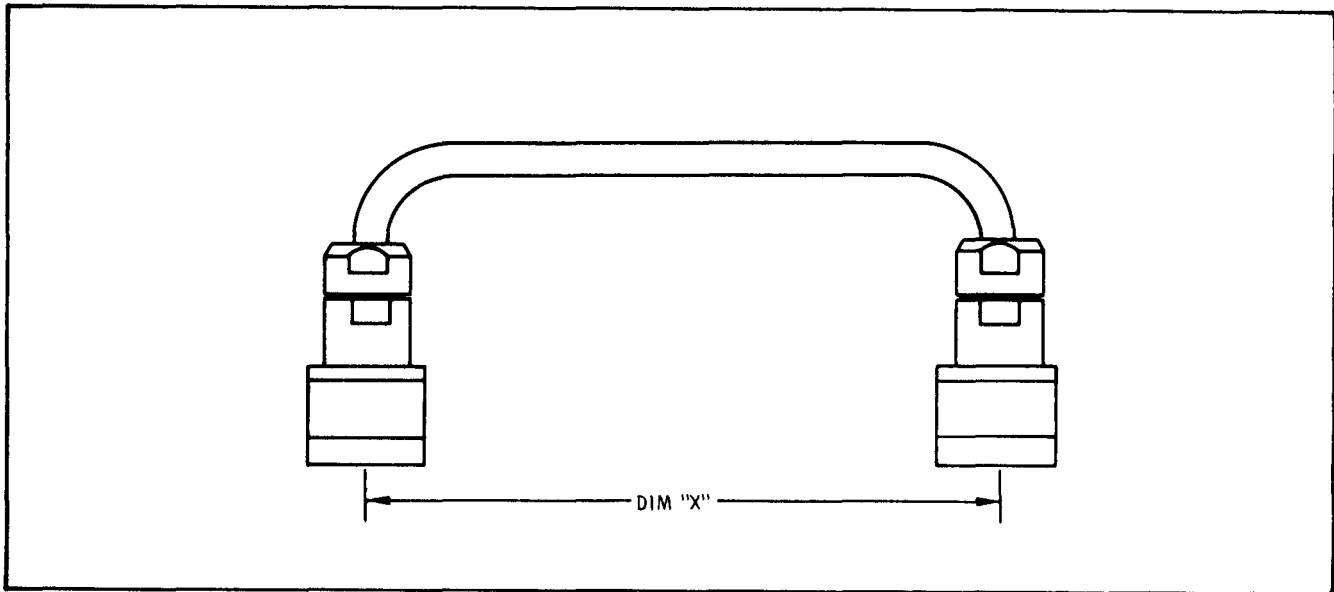
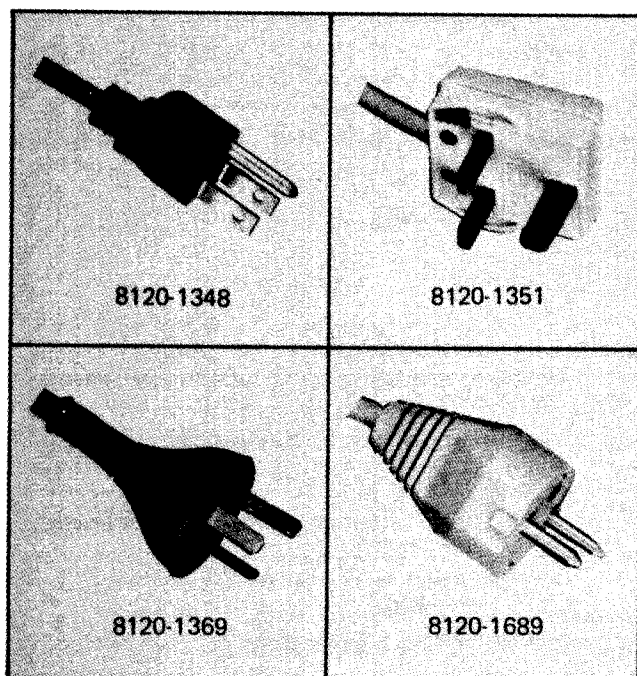

Figure 1-3. RF Interconnect Cable
Figure 2-2. Power Cable HP Part Numbers Versus Mains Plugs Available
1-39. Table 1-3 lists the accessories supplied with the Preselector. The accessories supplied are for a standard installation which provides for the Preselector to be mounted on an 8555A Spectrum Analyzer and fastened with a joining racket kit. A different mounting installation will require a different RF cable to connect between the Preselector output and the Spectrum Analyzer input (Figure 1-3). The power cable supplied with the instrument is selected at time of shipment. Selection is based on shipping destination. Figure 2-2 illustrates the different power cable connectors that are currently available.
1-43. The rigid RF Interconnect cable used to couple a Preselector to a Spectrum Analyzer is illustrated in Figure 1-3. Standard Preselectors are made to operate above the Spectrum Analyzer. The possible mounting configurations, connector types, dimensions and part numbers are indicated in Table 1-4. For information regarding RF Interconnect cables used when the Preselector is mounted BELOW the Spectrum Analyzer, contact your local Hewlett-Packard Sales Office. A Rack Mounting Kit is available to install the instrument in a 19-inch rack. Rack Mounting Kits may be obtained through your nearest Hewlett-Packard Office by ordering HP Part Number 5060-8739.
*See paragraph 2-10 and Figure 2-2.
**See paragraph 1-35 and Figure 1-3; item not supplied with Option 005.
2-11. In accordance with international safety standards this instrument is equipped with a three-wire power cable. When connected to an appropriate power line outlet, this cable grounds the instrument cabinet. Figure 2-2 shows the styles of mains plugs available on power cables supplied with HP instruments. The numbers under the plugs are part numbers for complete power cables.
2-18. When used with the Spectrum Analyzer, the Preselector should be both mechanically and electrically connected to the Spectrum Analyzer. The preferred mounting configuration is with the Preselector mounted on top of and secured to the Spectrum Analyzer. A joining bracket kit is supplied to secure the Preselector to the analyzer. A rigid coaxial cable (for the preferred mounting configuration) is supplied to connect the OUTPUT on the Preselector to the INPUT connector of the Spectrum Analyzer. For mounting installations other than the preferred configuration refer to Figure 1-3 for cable information.